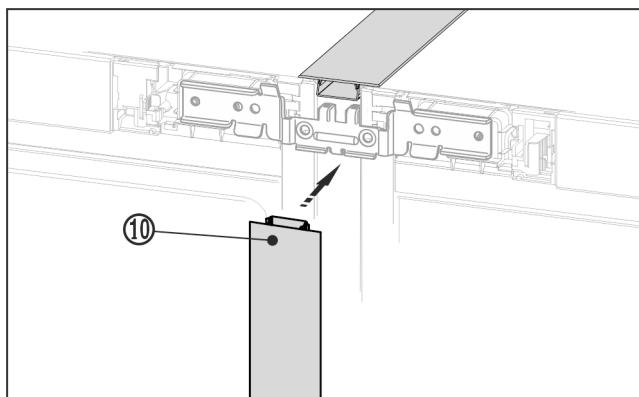

Fig. 22
- On the front, press the long cover strip Fig. 22 (10) into the vertical gap. Ensure that the strip rests on the connecting plate.